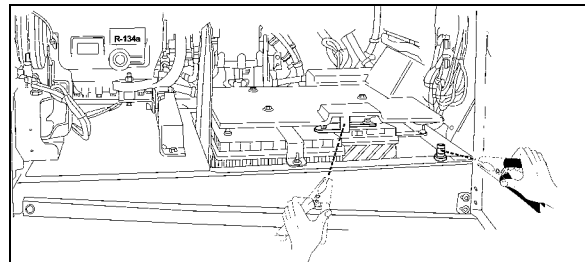

FIGURE 18: JUMP STARTING
2. Apply parking brake and place the transmission shift lever or push-button pads in Neutral (N) position in both vehicles. Turn off lights, heater and other electrical loads. Observe the charge indicator. If the indicator in the discharged battery is illuminated, replace the battery. **Do not** attempt jump starting when indicator is illuminated. If the test indicator is dark and has a green dot in the center, failure to start is not due to a discharged battery and the cranking system should be checked. If charge indicator is dark but the green dot does not appear in center, proceed as follows:
3. Connect one end of one red jumper cable to the positive (+) terminal of the booster power source and the other end to the positive (+) terminal bar on the battery, located in the engine compartment R.H. side area (refer to fig. 18).
On all XLII MTH, booster terminals are located in the engine compartment on the R.H. side and are accessible through engine compartment R.H. side door (Fig. 18).